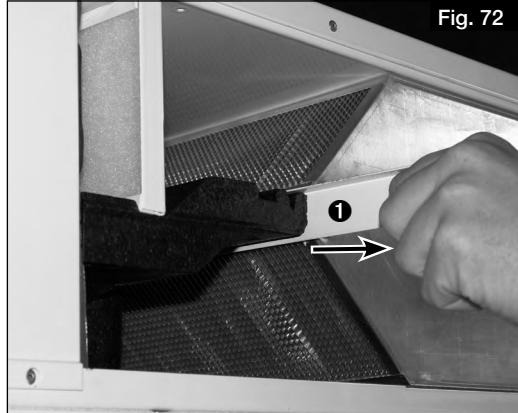

Fig. 72
2. Pull out sealing strip ① (see Fig. 72).